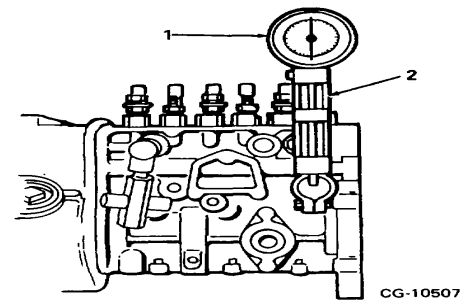

Figure 3. Establishing Initial Plunger Lift (No. 1 Pumping Element)
4. Mount lift-to-port closure measuring device 1 688 130 135 with dial indicator 1 687 233 012, adapter bushing 1 683 350 066 and tappet pin 1 682 012 008 to pump (Figure 3). Make sure tappet number one is at bottom dead center (B.D.C.). The plunger lift-to-port